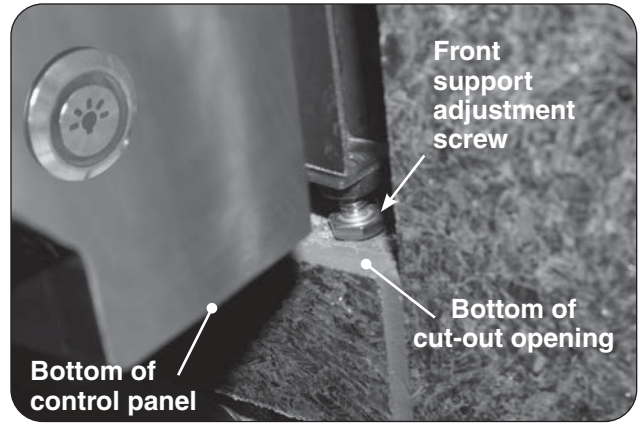

Fig. 21-1 Front support adjustment screws
- Rotate the front support adjustment screws to the left to raise and to the right to lower the respective side of the appliance grill. Use a  $\frac{7}{16}$ " open-end wrench as needed. See Fig. 21-1.